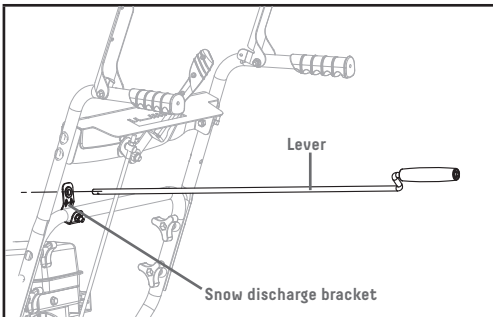

Figure 10A
1. Insert the lever through the discharge chute bracket on the lower handle, and then into the hole of the gear (Fig. 10A).